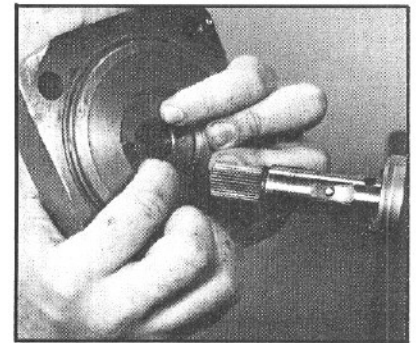

Figure 126
Next, grasp the valve housing (9) and valve sleeve (15) as an assembly, with your thumbs on the valve housing and your fingers applying pressure on the valve sleeve to keep it in the valve housing (FIG. 126).